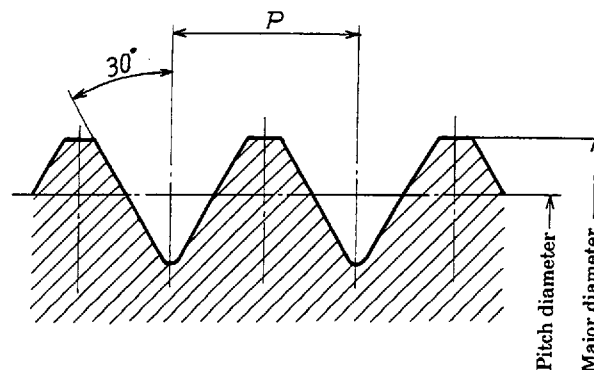

Fig. 2 Profile with complete flanks (thread plug gauge)
8.1 Profile with complete flanks, and its application (Refer to Figs. 2 and 3)
GO screw plug gauge GO engagement checking screw plug gauge NOT GO engagement checking screw plug gauge for working NOT GO engagement checking screw plug gauge for inspection	See Fig. 2 ⁽³⁾ .